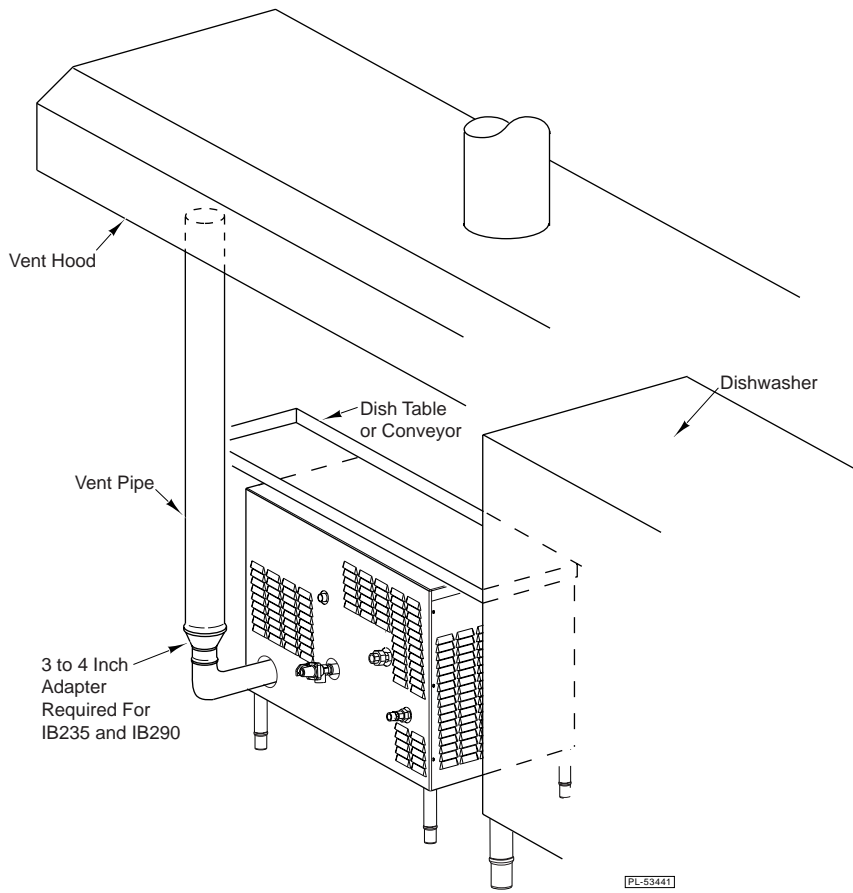

Fig. 2
1. Into the exhaust system (Fig. 2). The vent pipe must not penetrate the filter. When the heater is vented into the exhaust system, an electrical interlock must be provided (by others) to allow the flow of gas to the booster heater burner ONLY when the exhaust system is functioning. Refer to APS1 and APS2 on the wiring diagram in the control box accessed by removing the left side panel (also refer to pages 12 and 13).